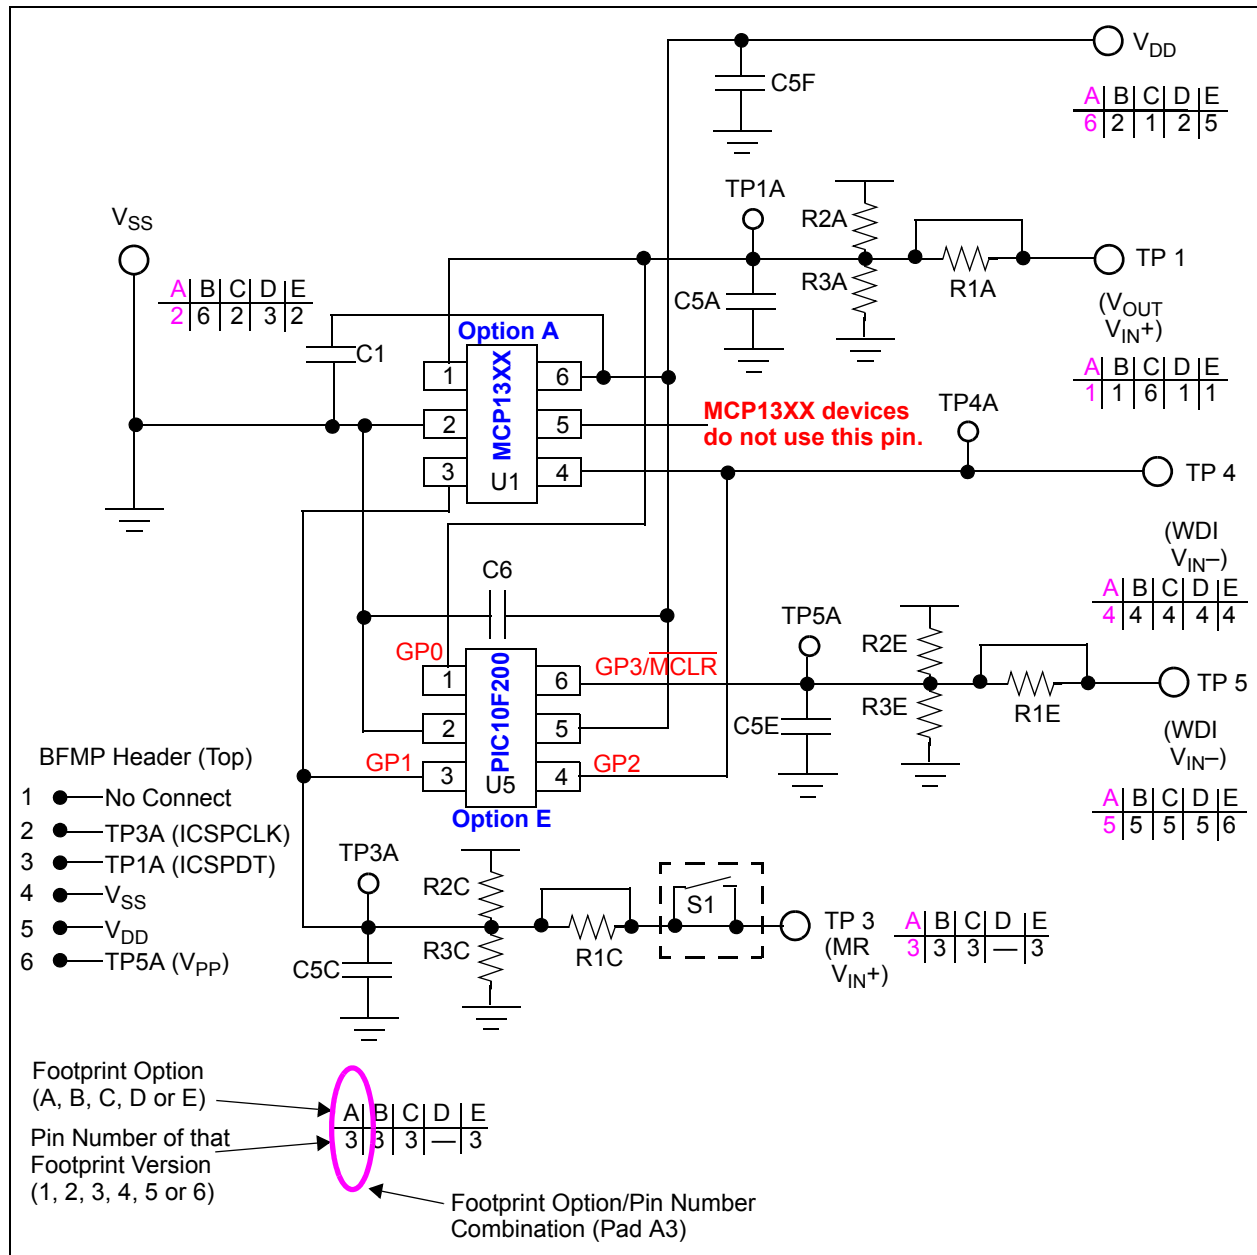

FIGURE 2-7: MCP13XX and a PIC10F200 Circuit.
Figure 2-7 shows the schematic to interface the appropriate MCP13XX device to the PIC10F200 to exercise the Watch Dog Timer (WDI) and Manual Reset (MR) functionality of the device.